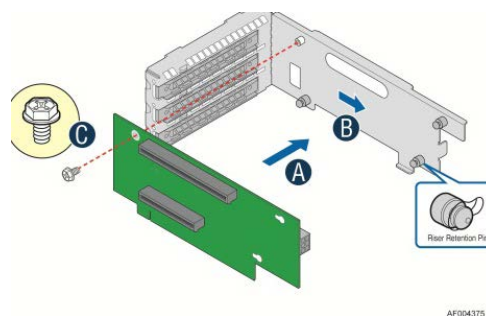

Figure 2. 2-slot PCIe Riser Card Installation
5. Install the new 2-slot PCI riser card onto the PCI riser assembly as shown (see Figure 2 below).